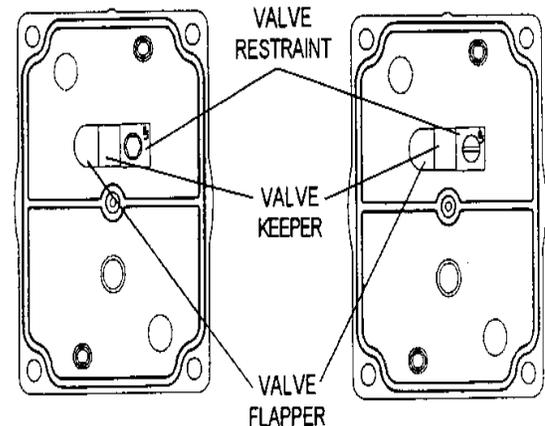

FIGURE 16 - INSTALL THE NEW EXHAUST FLAPPER VALVE, VALVE RESTRAINT AND VALVE KEEPER
2. Install the NEW exhaust flapper valve, valve restraint and valve keeper to the top of the valve plate (FIGURE 16).